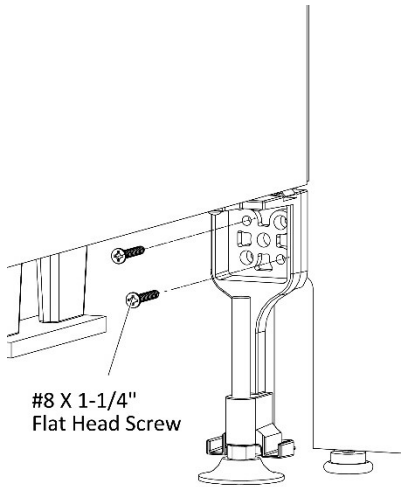

Figure 3
- 6. Drive two #8 X 1-1/4" Flat Head Screws through the holes in standard panel leg into the pre-drilled holes of gallery panel, (Figure 3).